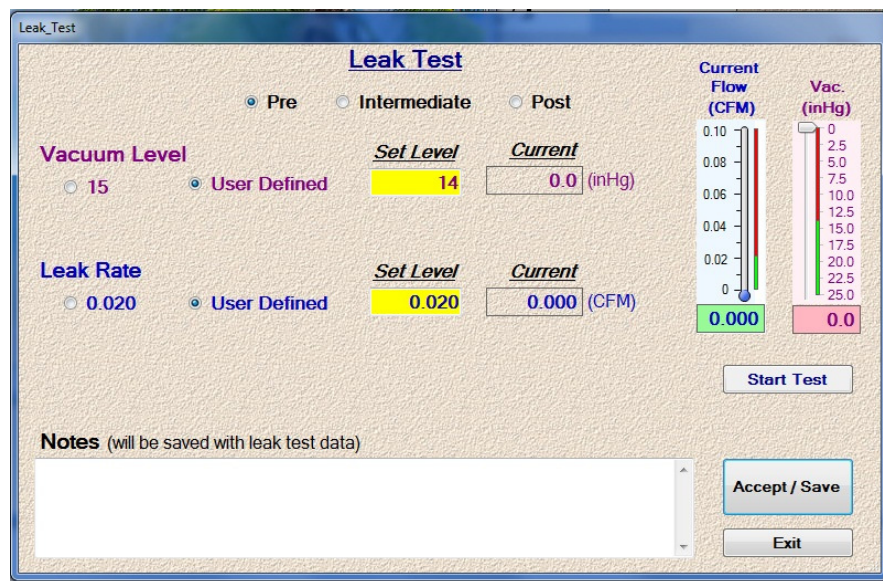

Figure 48 - Leak Test Menu Screen
- ii) After the file is saved, the Leak Test Menu, shown in Figure 48, below, will open.